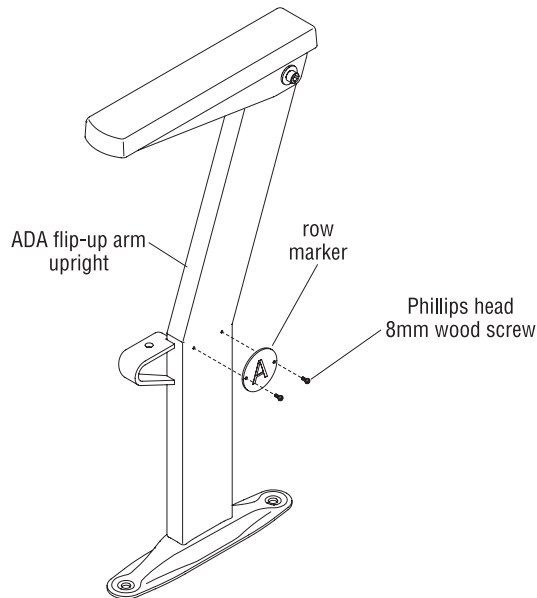

Figure 10
3. Use two Phillips head 8mm wood screws to attach row marker to side of upright (Figure 10).